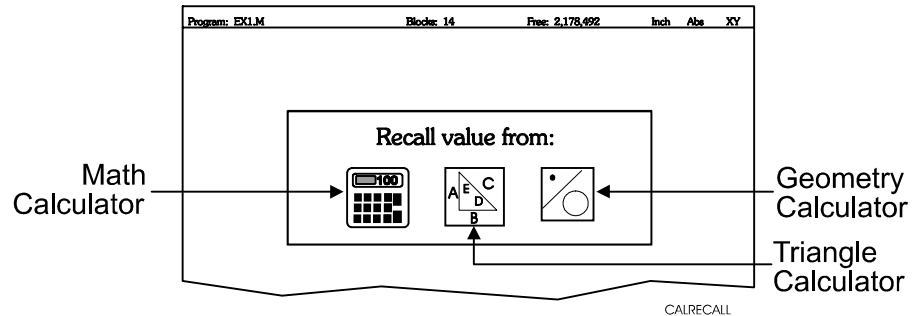

Figure 6-7, Recall value from: Pop-up Menu
2. Press **Recall (F2)** to display the **Recall value from:** pop-up menu. Refer to **Figure 6-7**.